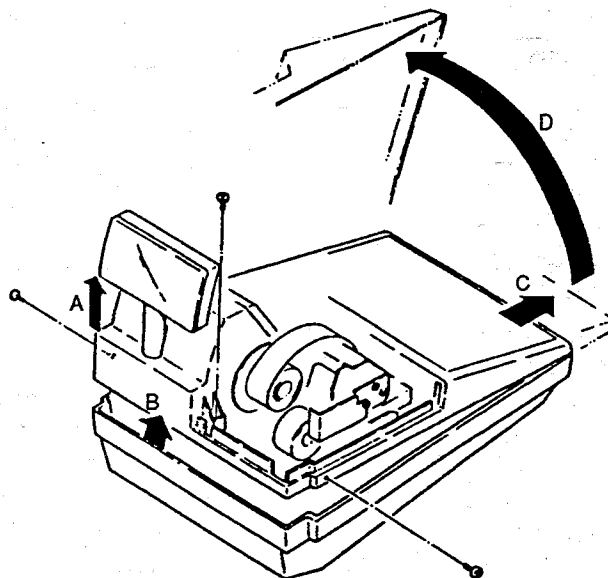

Fig. 13-1
2. Removing the top cabinet (Fig. 13-1)